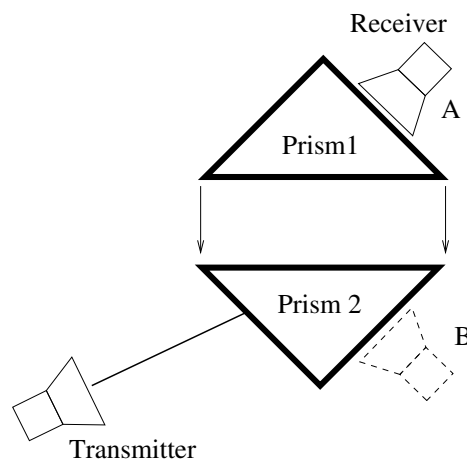

Figure 7: Frustrated total internal reflection.
9. Dismantle the apparatus used above. Take the transmitter and receiver units off their metal stands. Arrange the transmitter, receiver and a prism on the table top such that total internal reflection is occurring. Place the transmitter about 20 cm away from the prism. Check that total internal reflection is occurring by bringing the receiver right up against the hypotenuse face of the prism. With the second prism, place the receiver hard up against one of the (equal length) faces. Move the receiver and the second prism as one slowly towards the first prism, as in Figure 7. Keep the hypotenuse faces of the prisms parallel. Monitor the meter reading. Continue until the hypotenuse faces nearly contact.
10. Arrange the prisms like in Figure 7. Close the prisms and separate the Prism 1 from Prism 2 in in 1 cm steps up to 10 cm. Record your readings.